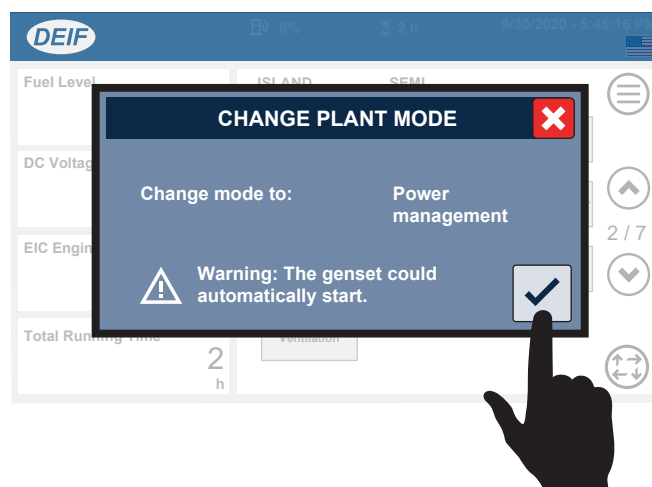

Figure 133. Change Plant Mode Screen
18. Verify that the **Change Plant Mode** screen is displayed (Figure 133), then press the **OK** button.